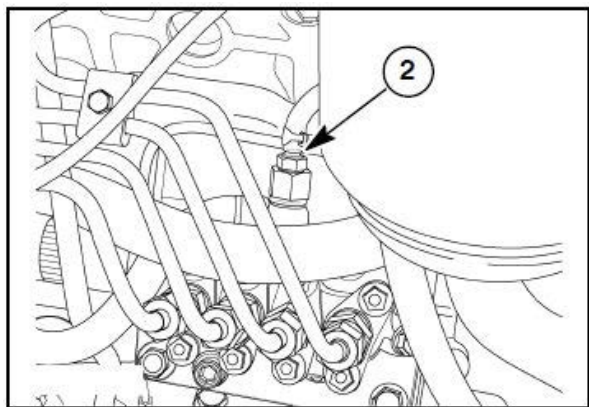

Figure 3-10
3. Remove hose (2) in Figure 3-10, from the top of the bleed fitting. Reinstall hose when air-free fuel starts to flow.